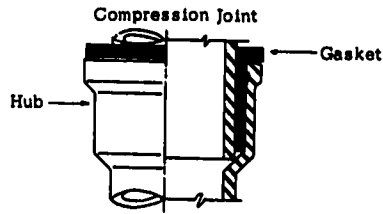

Fig 1-83. Compression joint.
- **Compression joint.** This is an easy joint to make; however, check the local plumbing code to see if it is an acceptable type of joint. This joint is made with a neoprene compression gasket (fig 1-83). The gasket is first inserted into the hub end of a piece of pipe. The spigot or plain end of a connecting pipe or fitting is then forced into the hub. As you can see, there is little need for oakum or lead to prepare this type of joint.